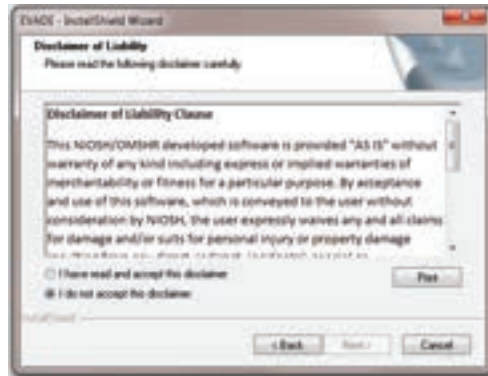

Figure 8. Window displaying NIOSH Disclaimer.
6. A window with the Disclaimer of Liability Clause will appear for you to read (Figure 8). (The text of the Disclaimer is shown in italics below Figure 8).